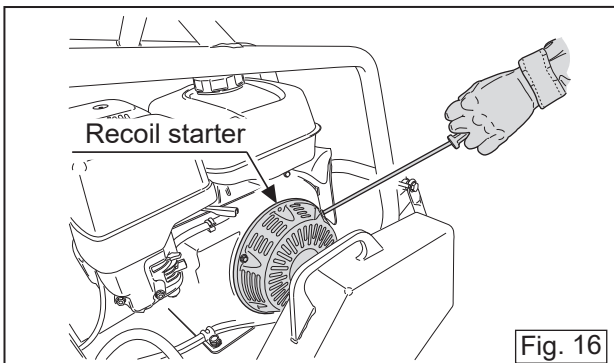

Fig. 16
- 7.1 Pull the starter grip lightly until you feel resistance. Then, pull it briskly all the way out. (Fig.16)